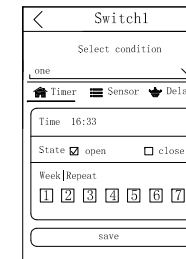

Fig. 6
- b. Press Add task to access to the interface as shown in Fig. 6. User can add timer, sensor control and delay off control. Press Save to save all the settings.